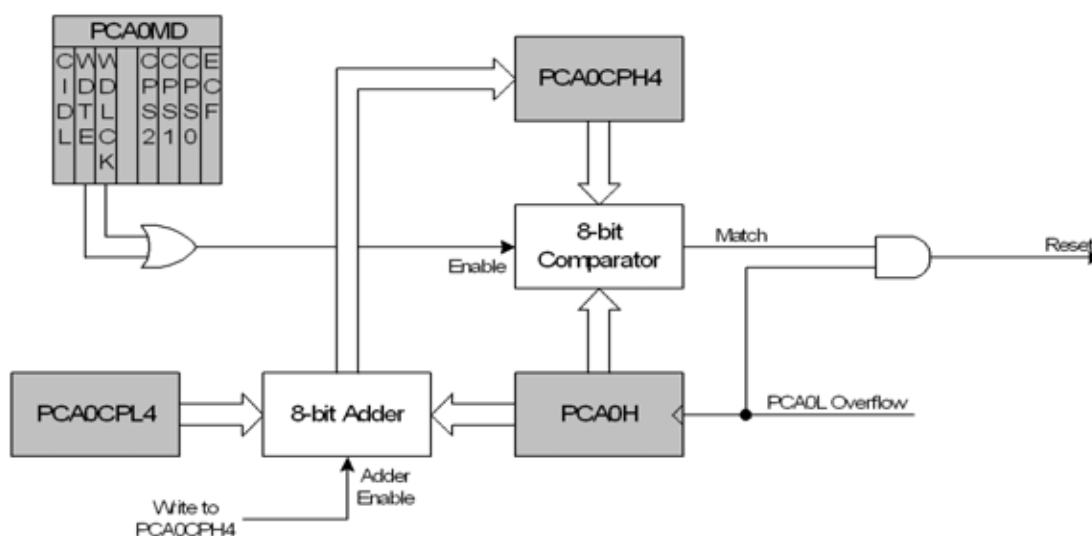

Figure 26.10. PCA Module 4 with Watchdog Timer Enabled
While the WDT is enabled, writes to the CR bit will not change the PCA counter state; the counter will run until the WDT is disabled. The PCA counter run control bit (CR) will read zero if the WDT is enabled but user software has not enabled the PCA counter. If a match occurs between PCA0CPH4 and PCA0H while the WDT is enabled, a reset will be generated. To prevent a WDT reset, the WDT may be updated with a write of any value to PCA0CPH4. Upon a PCA0CPH4 write, PCA0H plus the offset held in PCA0CPL4 is loaded into PCA0CPH4 (See Figure 26.10).